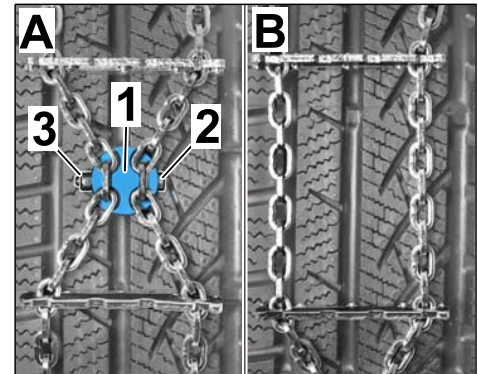

Figure 3
- 1.6.1 To "shorten" the snow chain (⇒ *Figure 3-A*):
- 1.6.2 To "lengthen" the snow chain (⇒ *Figure 3-B*):